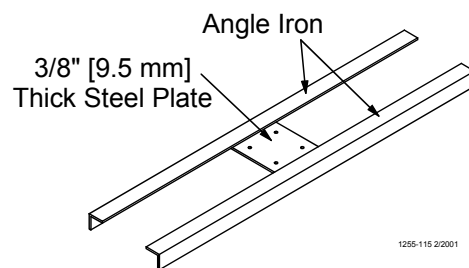

Figure 3. Optional Power Lift Winch support detail
7. Install two pulleys to either a 2" x 8" [50x200 mm] board that will span at least 3 rafters or a 3/8" [9.5 mm] thick steel plate welded to two pieces of angle iron that are long enough to span at least 2 rafters. Install the pulleys directly above the feeder line where the hopper is to be located. The pulleys should be spaced 24" apart (12" from the center of the hopper in both directions). **See Figure 3.**